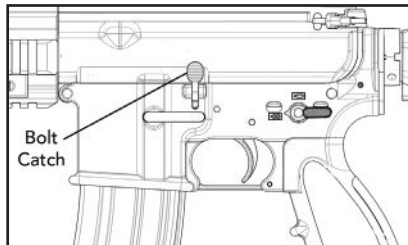

Fig. 31 – Depressing Bolt Catch to Chamber a Cartridge
6. Depress the upper portion (paddle) of the bolt catch. The bolt should go forward, stripping the top cartridge from the magazine and feeding it into the chamber (Fig. 31).